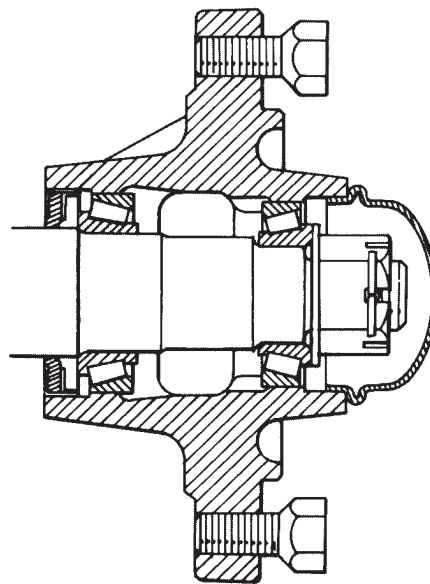

Figure 34
2. Remove the hub cap, cotter key, slotted nut, and washer (Fig. 34).